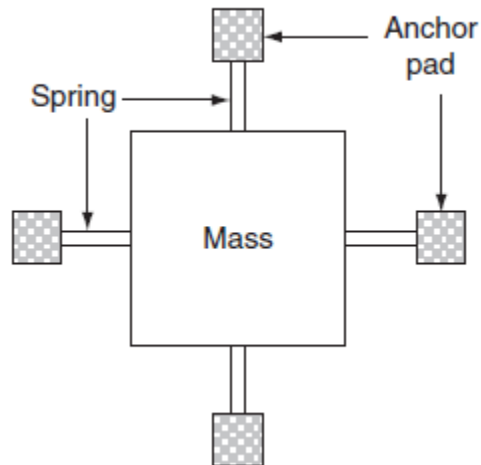

Fig. 2.1 Accelerometer layout for problem 2.2
2.2 In one of the designs of an accelerometer, the structure of the seismic mass ( $500 \mu\text{m} \times 500 \mu\text{m}$ ) and the four supporting springs ( $20 \mu\text{m}$  wide) were first obtained by etching a silicon layer of thickness  $10 \mu\text{m}$ . The top view of this structure and the anchor pads are shown in Fig. 2.1. It was required to release the mass and the spring while keeping the oxide below the anchor pads ( $150 \mu\text{m} \times 150 \mu\text{m}$ ) intact. The oxide is only  $1 \mu\text{m}$  thick. Suggest any modifications that would be necessary in the structure for its successful release.